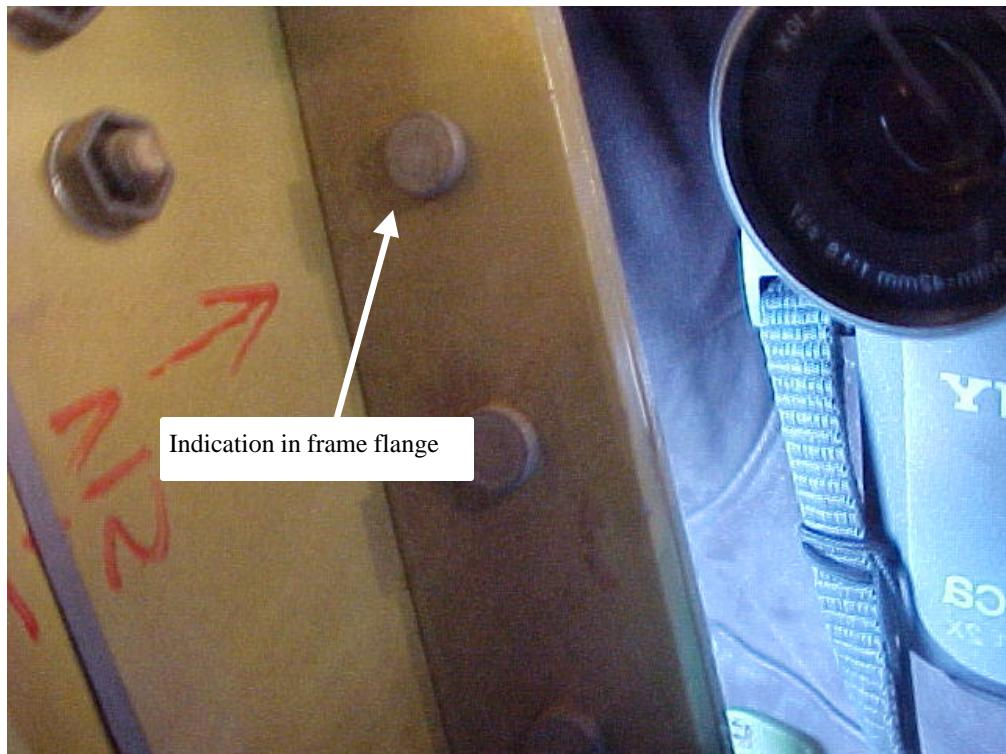

Figure F-7. Photograph documenting an indication on the reverse side of the frame flange at 848.95
- FIGURE F-7 Photograph documenting an indication on the reverse side of the frame flange at 848.95 (aft side of aft door).....F-7